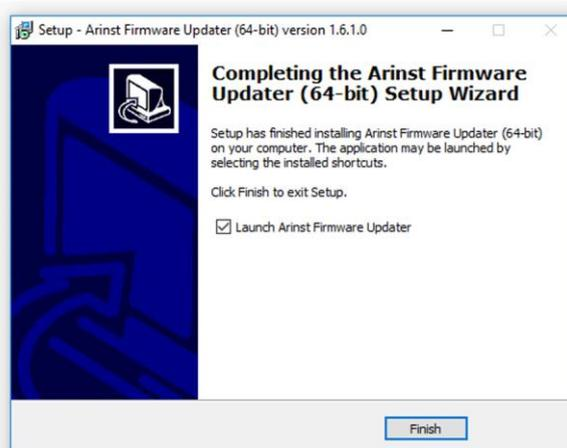

Figure A1.9 - Message from the application installation wizard
1.8. After completing the loader installation (Arinst Firmware Updater applications), the application installation wizard will inform the user that the application is installed. In order for the application to be launched immediately after exiting the installation wizard, check the box next to the corresponding option. Click **Finish** to exit from installation wizard (Figure A1.9).